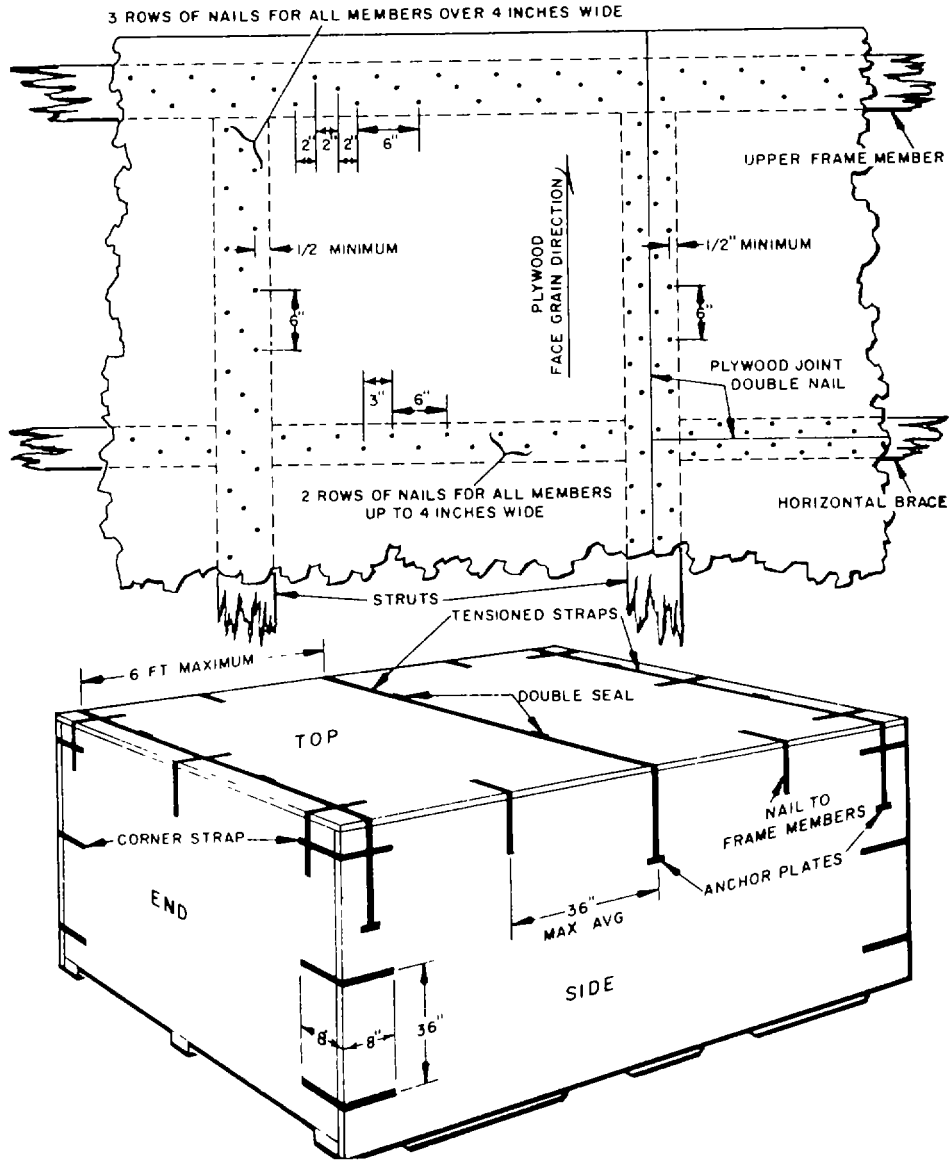

Figure D-3-10. Plywood Nailing and Strapping.
g. Nail Pattern and Strapping. Figure D-3-10 depicts the proper nail pattern for securing plywood sheathing to panel Frame members. Requirements are also shown for corner and top steel strapping of the assembled crate. Use 1-1/4-inch QQ-S-781 strapping secured with 1-1/2-inch roofing nails. Two-inch anchor plates are supplied to secure the strapping to the crate sides.